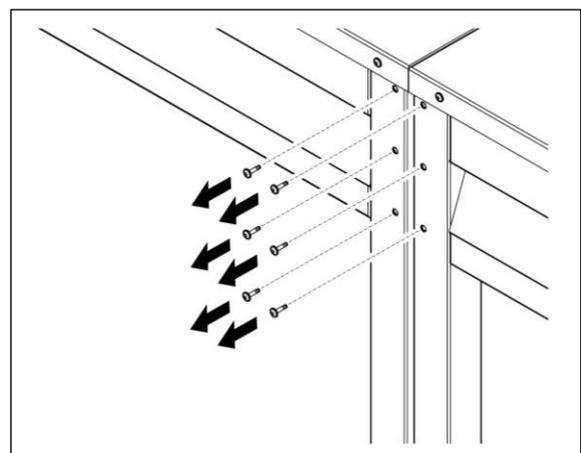

Fig. 3
4. Unscrew the screws for the assembly of the module connection plate on the guest **and** operator sides of both units. **Fig. 3**